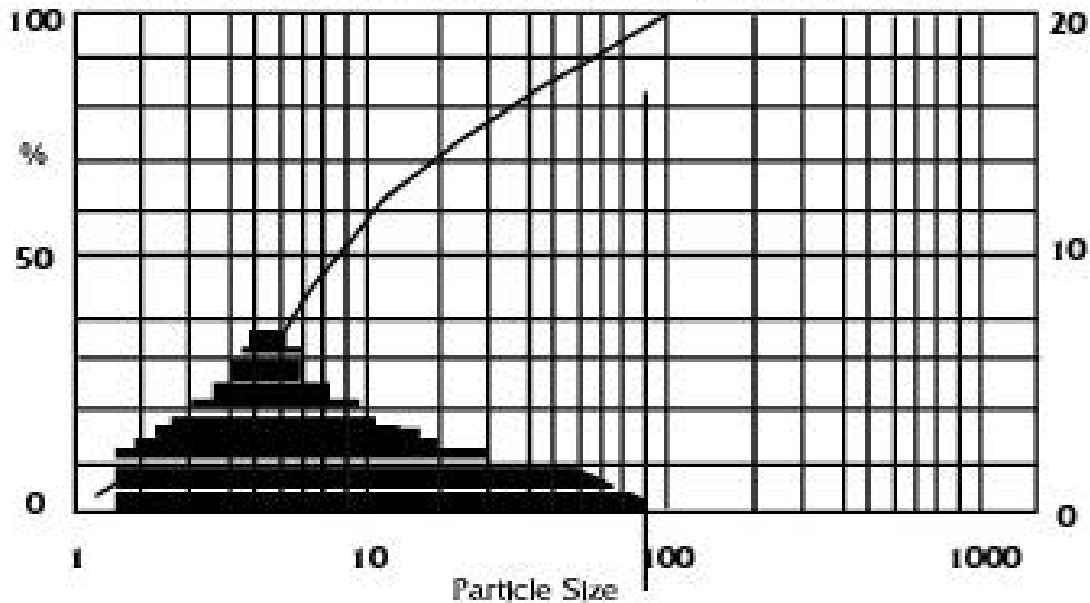

Fig.11
- Particle Size < 100 micron (**Fig. 11**)